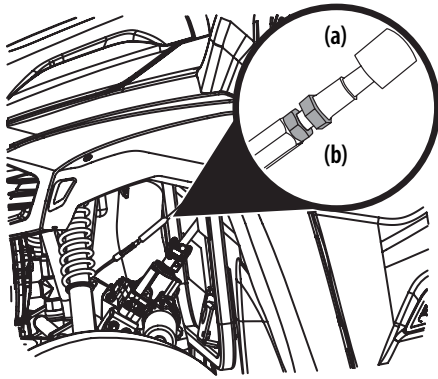

Figure 5-18
1. Look inside the driver's side wheel well and locate the adjustment point. Slide back the rubber cover (a) on the adjustment nuts (b). See Figure 5-18.
2. Adjust the parking brake handle nuts (b) until the free play in the handle is gone. See Figure 5-18.